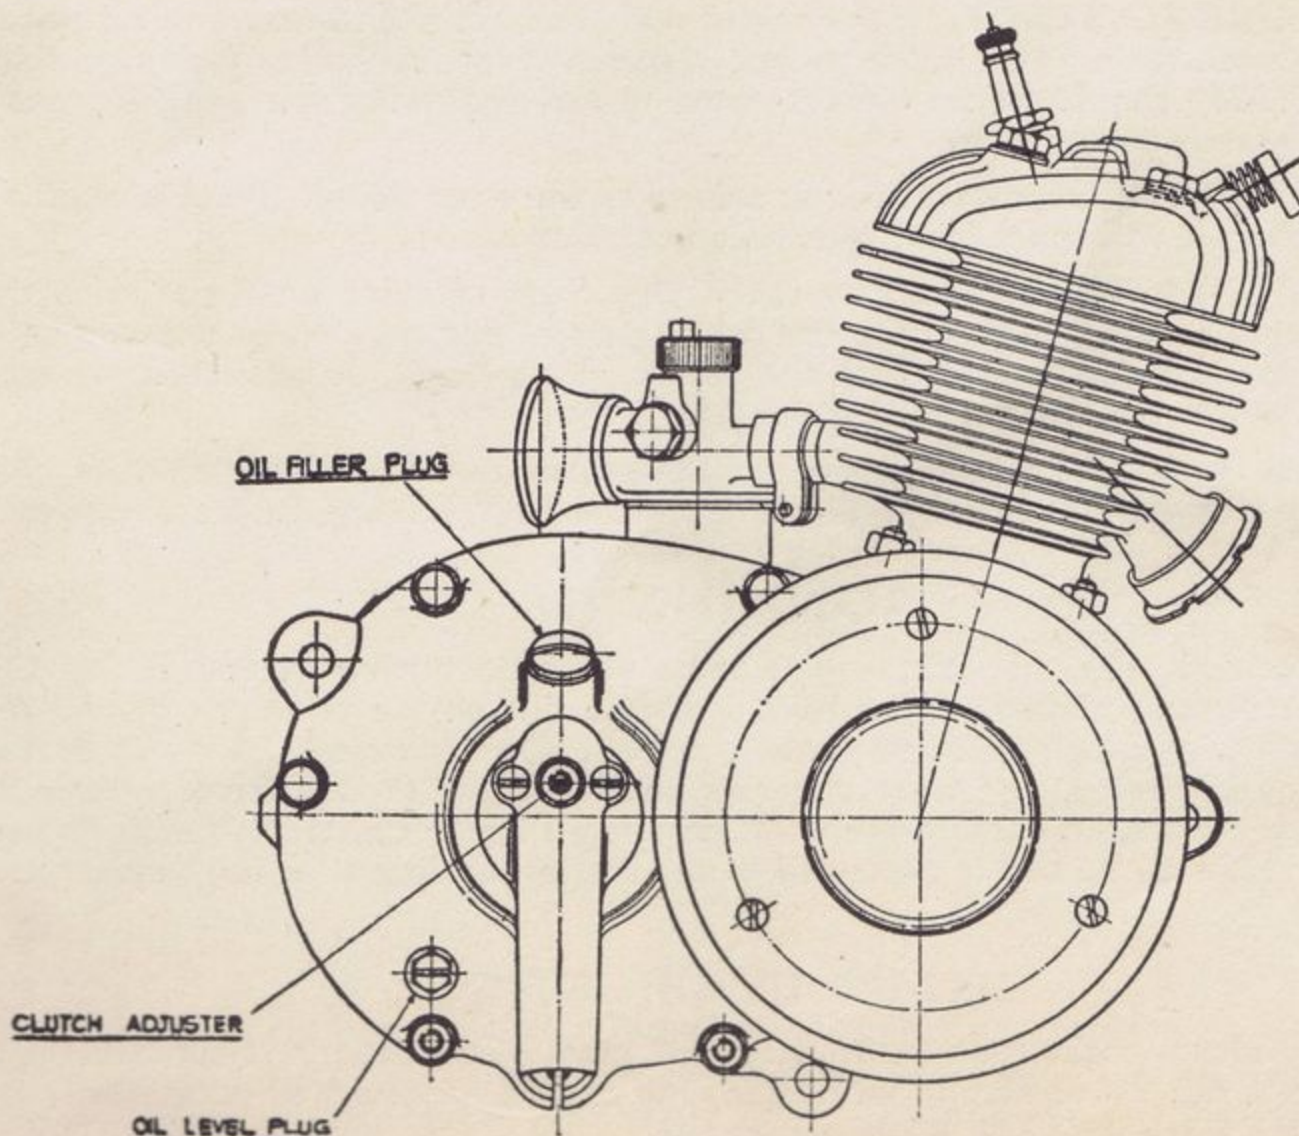

Fig. 1.
**CHAINCASE.** Remove the chaincase oil filler and oil level plugs, see Fig. 1, and with the cycle off the stand, pour in recommended Oil (see page 38) until it runs out at the level plug hole. Refit plugs securely. Examine every 500 miles and top up if necessary.
Every 500 miles inspect level of oil in clutchcase by removing level screw. (See Fig. 1). Top up if necessary with grade of oil previously recommended.
Occasionally check clutch control cable adjustment. There should be a very small amount of slack in the clutch cable when clutch is engaged. Adjust clutch cable by means of adjustment screw on clutch bridge casting (see Fig. 1). Screw adjuster in until there is just a trace of slack in the cable ; this is essential, otherwise the clutch may be slightly disengaged and cause slipping. Tighten locknut after adjustment.